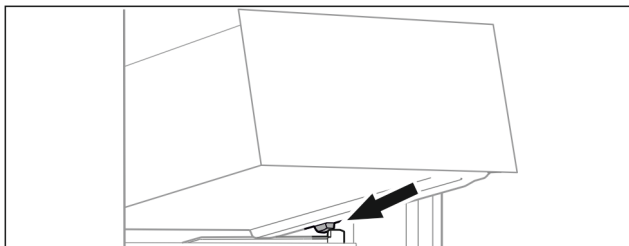

Fig. 114
- ▶ Place drawer at an angle behind the stoppers on the moulded rib. (see Fig. 114)